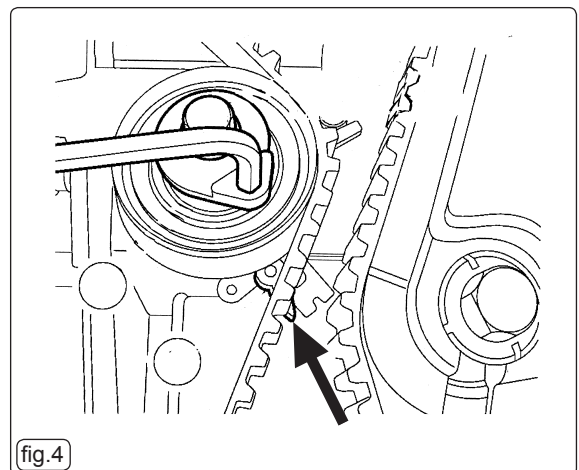

fig.4
- 3.5.7 Use an allen key to turn the tensioner **anti-clockwise** to apply tension to the belt until the tensioner pointer is positioned as shown in fig.4 - **on the left-side of the notch' in the baseplate.**